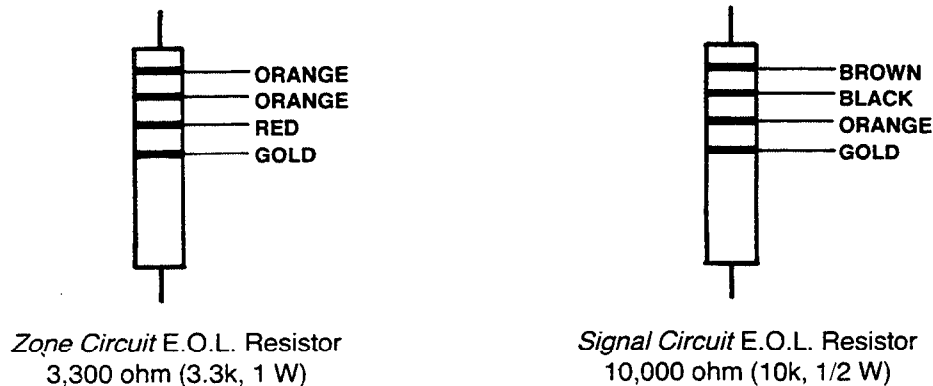

Figure 5 – E.O.L. Resistors
- c. Use the color code shown in Figure 5 to determine E.O.L. resistor values. E.O.L. resistors are provided as part of the System Support Material when shipped. A 1,000 ohm (1k, 1 W) resistor is provided for the city relay termination, and should be installed when city connections are not required. Terminate all unused zone circuits with 3.3k ohm resistors. Terminate all unused signal circuits with 10K ohm resistors.